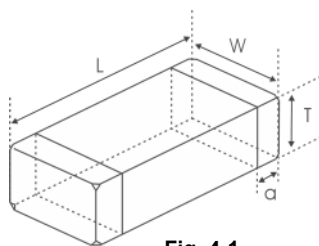
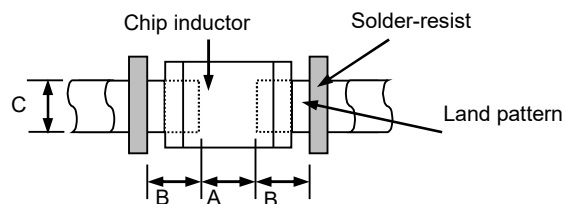

Fig. 4-1
Fig. 4-2
- Dimensions and recommended PCB pattern for reflow soldering: See Fig.4-1, Fig.4-2 and Table 4-1.